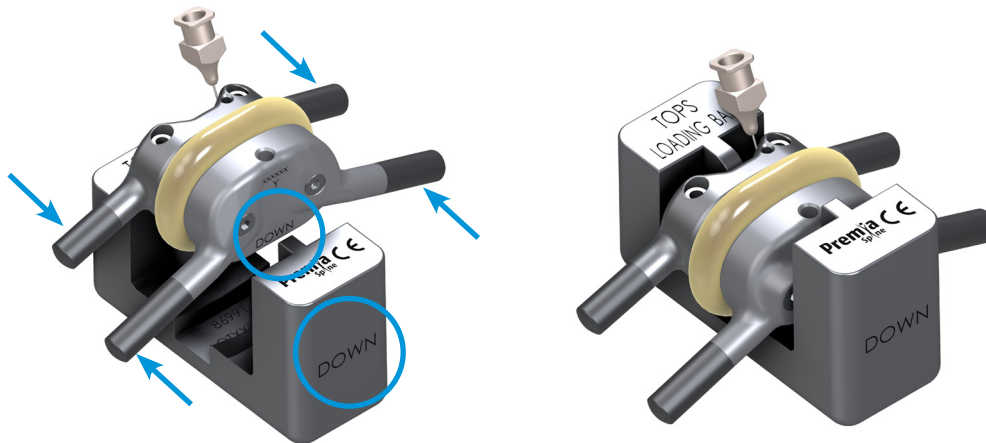

Figure 30a: Compress the TOPS Motion Device arms to facilitate inserting into the Loading Base
- Place the TOPS Loading Base on a flat surface making note of the "UP" and "DOWN" orientation. Note that the TOPS Motion Implant also has "UP" and "DOWN" markings. Place the TOPS Motion Implant in the Loading Base. Ensure that the UP and DOWN indicators on the TOPS Motion Implant match those on the Loading Base. Make sure that the 3 mounting holes on the TOPS Motion Implant are facing upwards. Slightly compress the TOPS Motion Implant arms and push the TOPS Motion Implant into the bottom of the Loading Base (Figure 30a). Confirm correct fitting of the TOPS in the Loading Base by ensuring no gaps between the implant and the dorsal wall of the Load Base (Figure 30b).